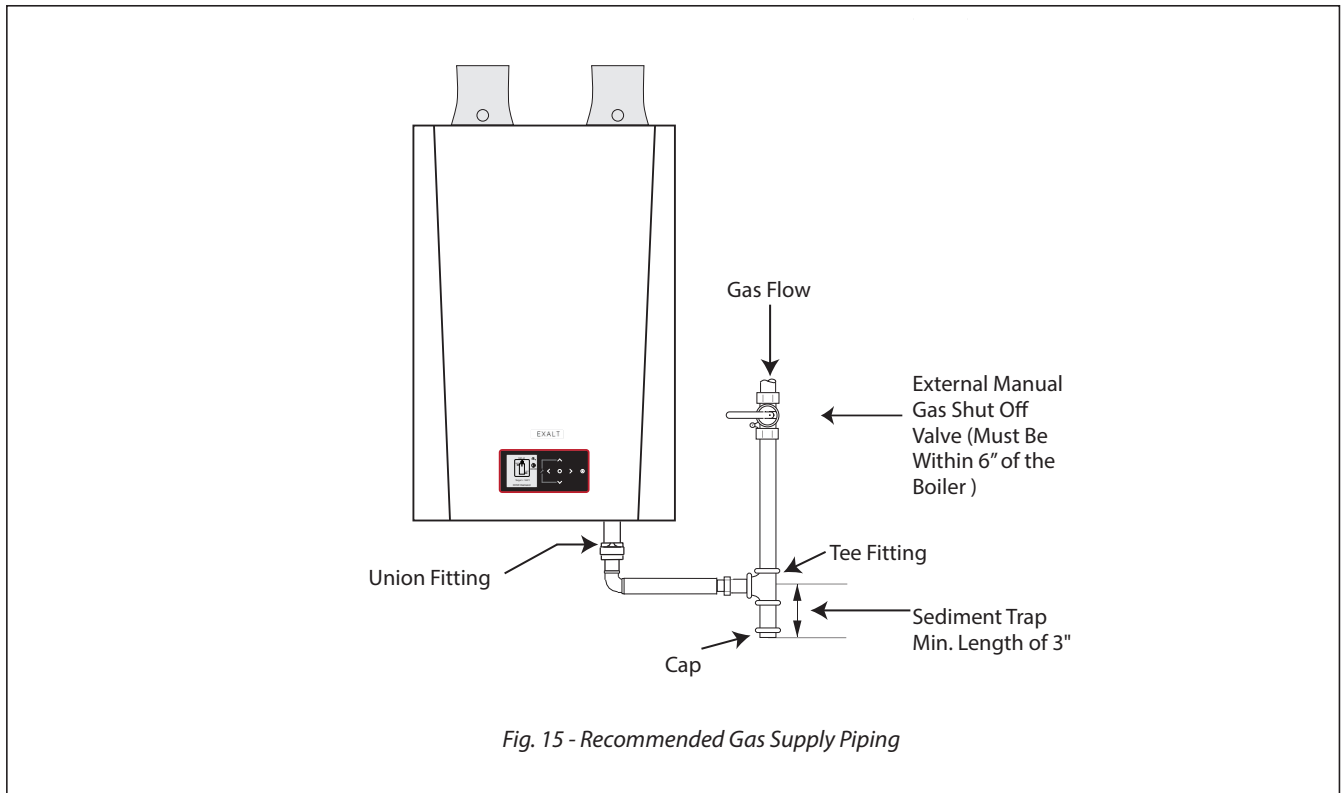

Fig. 15 - Recommended Gas Supply Piping
2. Install a manual shutoff valve in the gas supply piping as shown in *Fig. 15 above*. For installations in Canada, the installer must tag and identify the main shutoff valve.
3. Install a sediment trap (drip leg) on the gas supply line prior to connecting to the EXALT gas train as shown in *Fig. 15 above*.